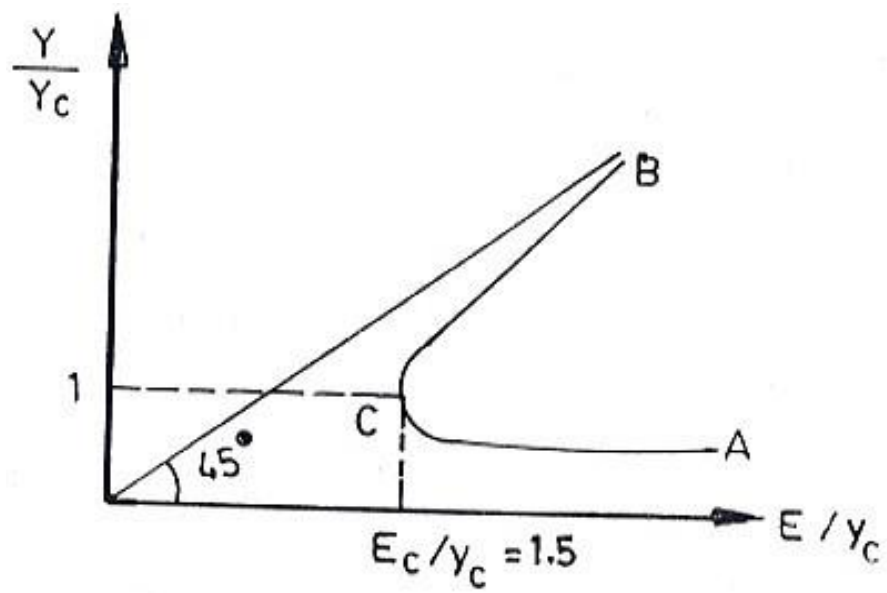

Fig. 2 Dimensionless specific energy curve
Equation (5) is the generalized form of the relationship between specific energy and depth of flow in which each term is dimensionless. The plot of this equation is shown in Fig. 2.